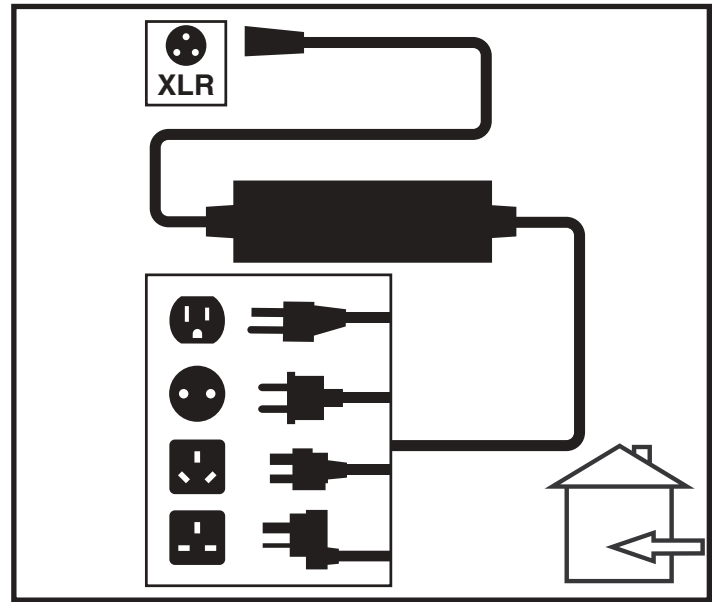

Figure 19. Battery Charging
1. Position the front of your power chair next to a standard electrical outlet. **See figure 19.**
3. Plug the off-board charger into the off-board charger/programming socket on the controller. **See figure 19.**